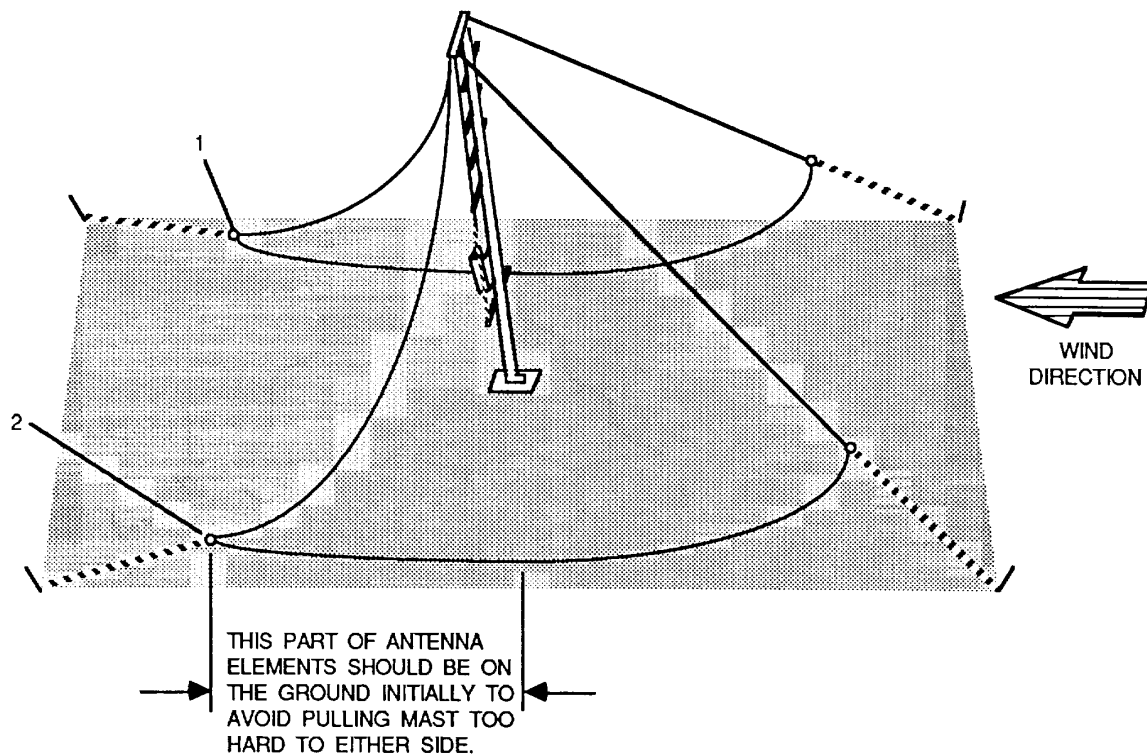
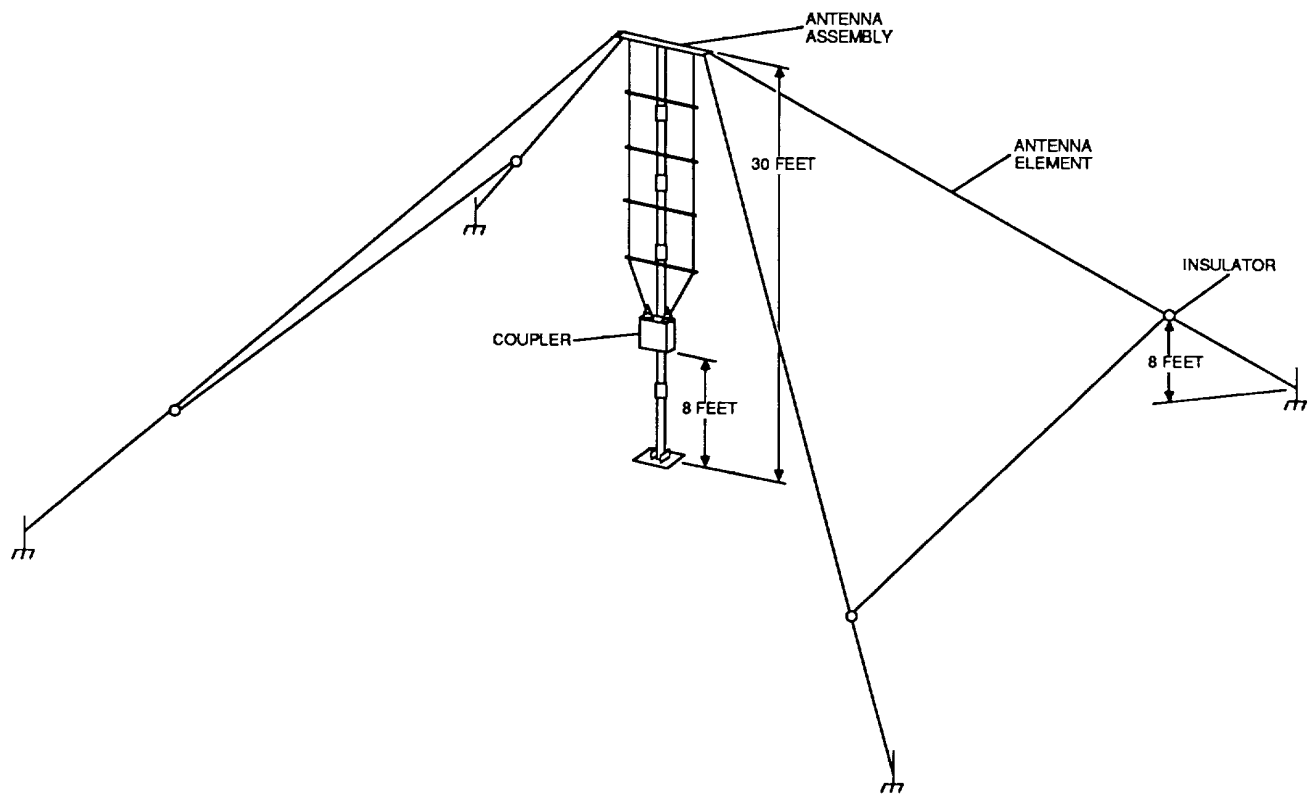

Figure 2-17. Raising Antenna Mast
Figure 2-18. OE-480/VRC-86(V) Example Erected Antenna Group
- (22) Refer to figure 2-17. Raise and pivot mast past vertical position and allow to hang on guy lines.
- (23) Attach remaining two guy line free end snap hooks (1 and 2) to remaining antenna element insulators as shown. Adjust guy line length as necessary to remove slack.
- (24) Adjust four guy lines as necessary to put mast upright, and perpendicular and to remove droop from horizontal portion of antenna element. Droop should be less than six inches. Erected antenna group should appear as shown in figure 2-18.
- (25) Connect control cable, P103 to Y-interconnect connector J101 or to the extension of that connector such as AN/TSC-61 B antenna entrance panel connector J13. Connect RF cable, P113 to Y-interconnect connector J118 or to the extension of that connector such as AN/TSC-61B antenna entrance panel connector J8.